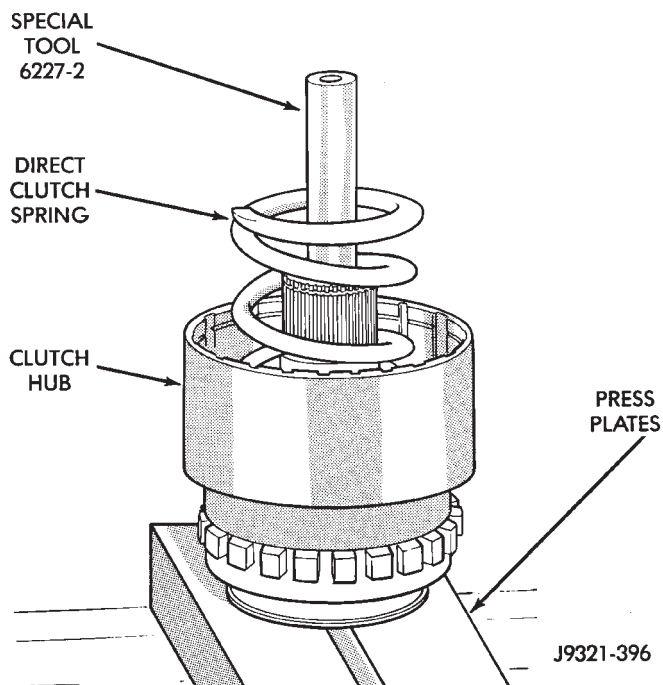

Fig. 221 Direct Clutch Spring Installation
(17) Install direct clutch spring (Fig. 221). Be sure spring is properly seated on spring plate.